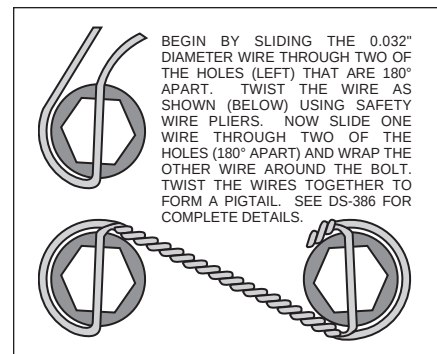

Figure 3. Safety Wire Diagram
- With the larger I.D. side of the rotor (3) facing away from the hat (4), bolt rotor (3) to hat (4) through the backside of the rotor using washers (5) and bolts (6). Using an alternating sequence, apply red *Loctite*® 271 to the threads and torque bolts to 155 in-lb. For an added measure of security, the bolts may be safety wired using standard 0.032 inch diameter stainless steel safety wire as shown in Figure 3. Please refer to Wilwood's data sheet DS-386 (available at [www.wilwood.com/Pdf/DataSheets/ds386.pdf](http://www.wilwood.com/Pdf/DataSheets/ds386.pdf)) for complete safety wire installation instructions. Slide the rotor/hat assembly onto the spindle. Check to be sure the hat seats squarely against the hub. Install a couple of lug nuts (finger tighten) to keep the rotor/hat assembly in place while continuing with the installation.
- Install one shim (11) over each pre-installed stud (10) on the radial mount bracket (1). Slide the caliper (7) in place over the studs and rotors and install the washer (9) and lock nut (8) to hold the caliper in place. The caliper bleed screws should be pointing up. Snug the lock nuts (8) and check that the rotor (3) is centered in the caliper (1). Add or subtract .03" shims (2 or 2A) as necessary between the caliper mounting bracket (1) and the spindle to center the caliper (7).
- Remove the caliper center bridge pad retainer bolt, nut, and tube from the caliper. Slide the brake pads (12) into place. They should install easily without interference. Check that the outside radius of the brake pad is aligned with the outside diameter radius of the rotor face. Add or subtract shims (11) between the caliper and mount bracket to gain the proper alignment. Reinstall the center bridge pad retainer tube, bolt, and locknut. The locknut should be snug without play in the bolt or tube. Be cautious not to over tighten.
- Once all clearances have been checked, remove the wheel, caliper, hat, and rotor from the spindle and hub. Secure the caliper mounting bracket (1) to the spindle with original stock bolt using red *Loctite*® 271. Torque the bolts to manufacturers specifications. Reinstall the hat and rotor assembly and again use lug nuts to hold it in place. Lubricate caliper mounting studs and nuts with lightweight oil, reinstall the caliper, torque the caliper nuts (12) to 30 ft-lb.